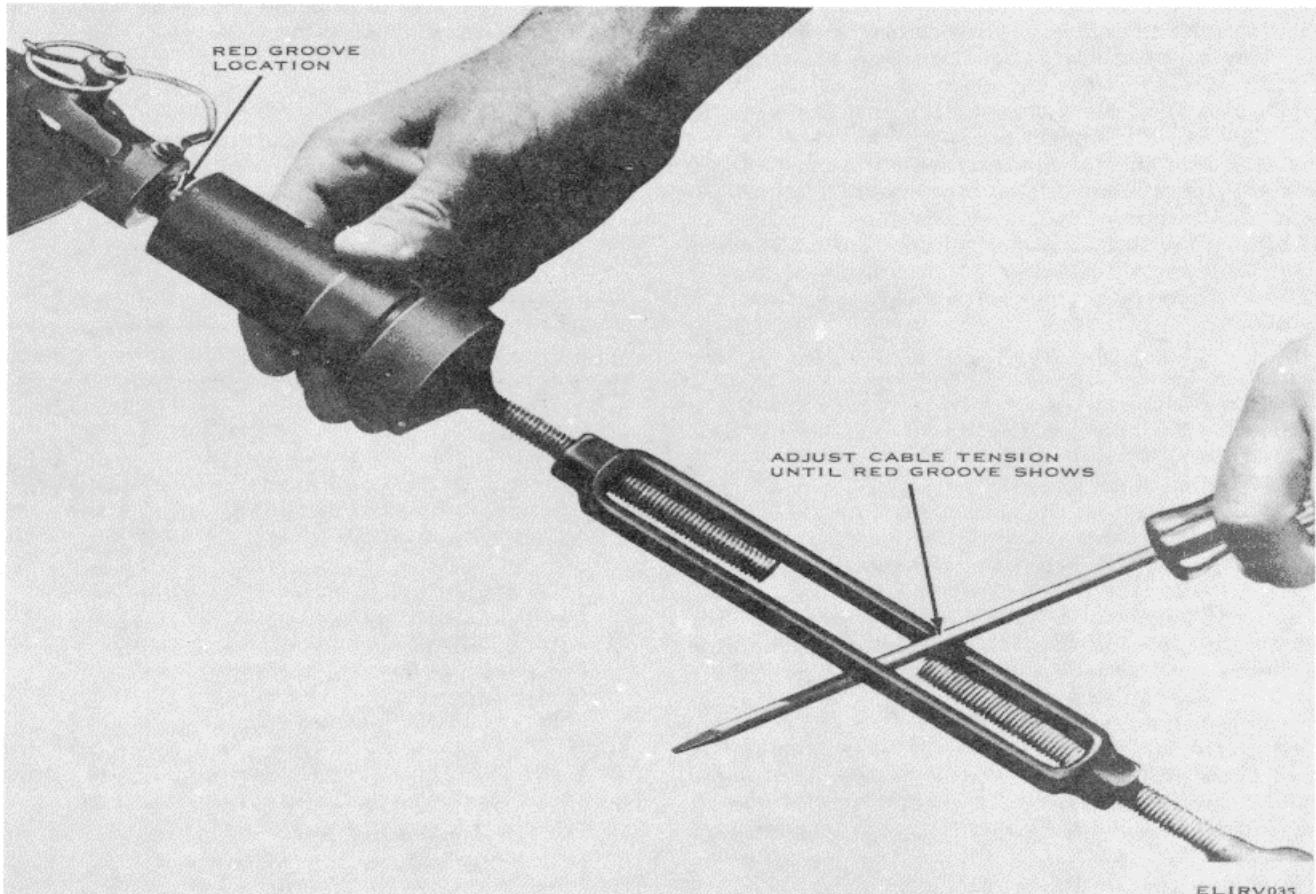

Figure 2-21. Earth anchor cable tensioning
- a. Tension the cables until the red groove is just visible (fig. 2-21). Gradually and progressively tighten all the cables around the antenna pedestal so that the pedestal settles evenly.